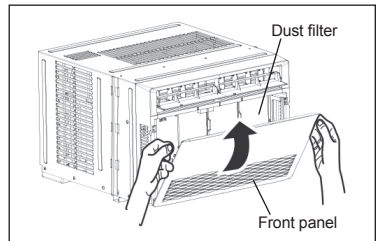

FIGURE 22
3. Once the filter is completely dry, reinstall it inside the unit, then close the front panel securely, as shown in *Figure 22*.